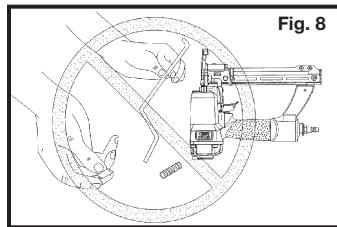

Fig. 8
**13. Never use a tool** that is leaking air, has missing or damaged parts, or requires repair. Make sure all screws and caps are securely tightened. Fig. 8.
**14. Never use tool if safety, trigger or springs** are inoperable, missing or damaged. Do not alter or remove safety, trigger, or springs. Make daily inspections for free movement of trigger and safety mechanism. Fig. 8.